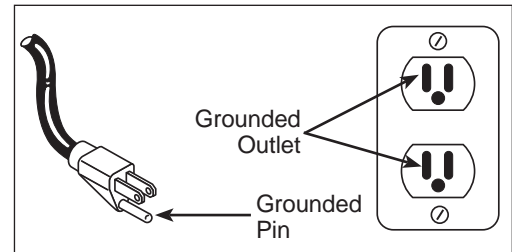

Figure 2
1. This product is for use on a nominal 120 volt circuit and has a grounding plug that looks like the plug illustrated in Figure 2. Make sure the product is connected to an outlet having the same configuration as the plug. This product must be grounded. In the event of an electrical short circuit, grounding reduces risk of electrical shock by providing an escape wire for electric current. This product is equipped with a cord having a grounding wire with an appropriate grounding plug. Cord must be plugged into an outlet that is properly installed and grounded in accordance with all local codes and ordinances.